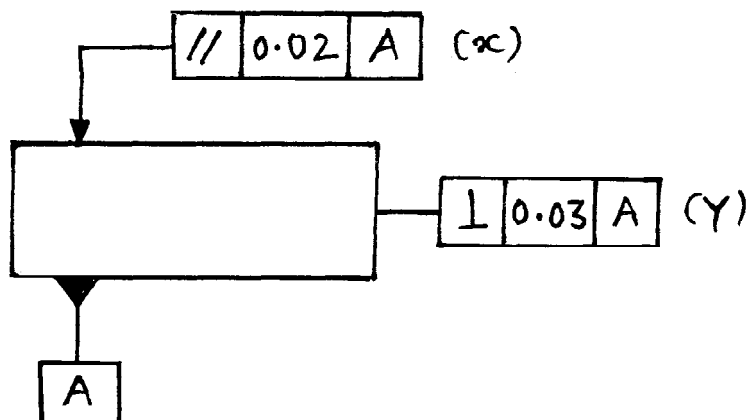

Fig. No. 3
- (i) Refer Fig. No. 3. What is the meaning of at 'x' and 'y'?